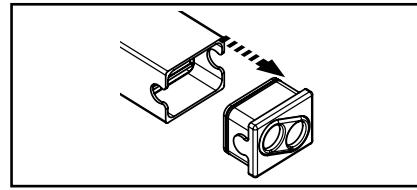

Figure 2: Sealing cap on the container
2. Push the board inside the container. Make sure that the stripped length of the cable is fully inside the container (Figure 2).